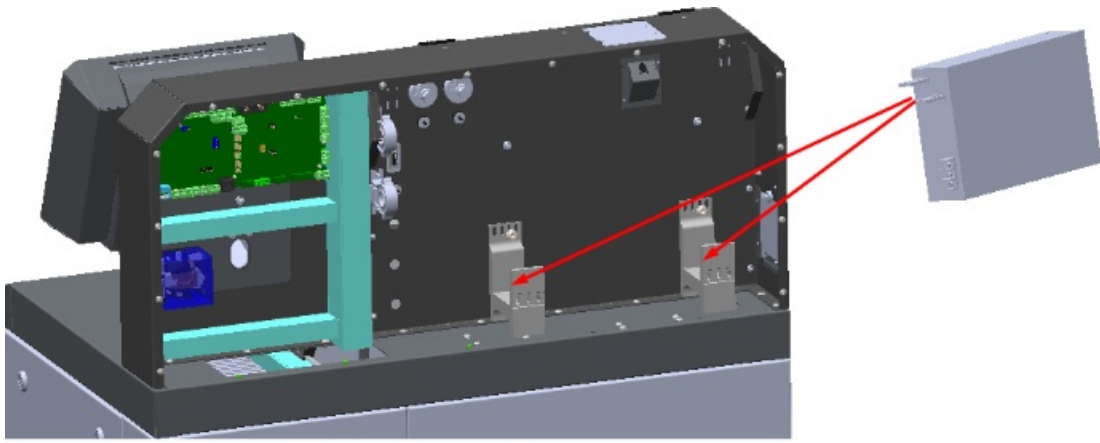

Figure 4
4. Install the RSP-3000-48 power supply unit on the brackets (see Figure 4). When installing, position the power supply unit so the wires are on the left side.